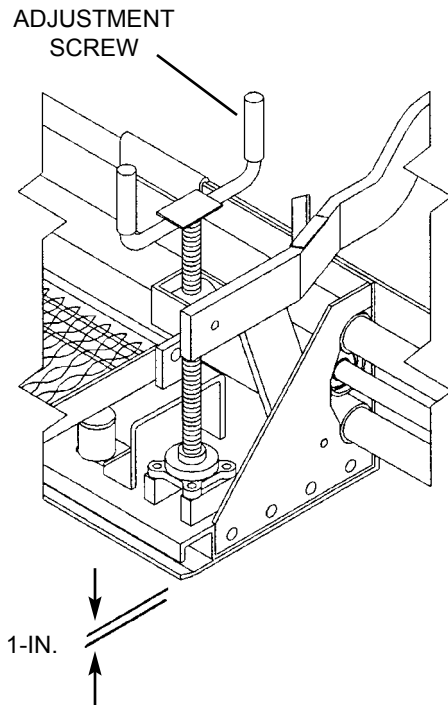

Fig. 13
6. (Fig. 13) To avoid bumping the rear edge of the Screed on the bottom of the ramps, turn the Depth Adjustment Screws 7 or 8 turns counterclockwise. This raises the rear edge of the Screed approximately 1 inch.
5. (Fig. 13) To avoid bumping the rear edge of the Screed on the ramps, turn the Depth Adjustment Screws counterclockwise (7 or 8 turns).